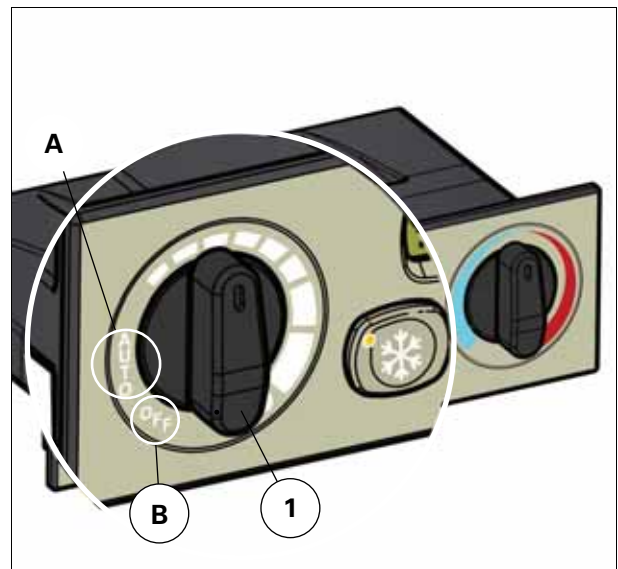

Fig. 32.
NOTE: If external temperatures are high, it is advisable to work with the system in recirculation mode, with control knob (1) in automatic position fig. 32.